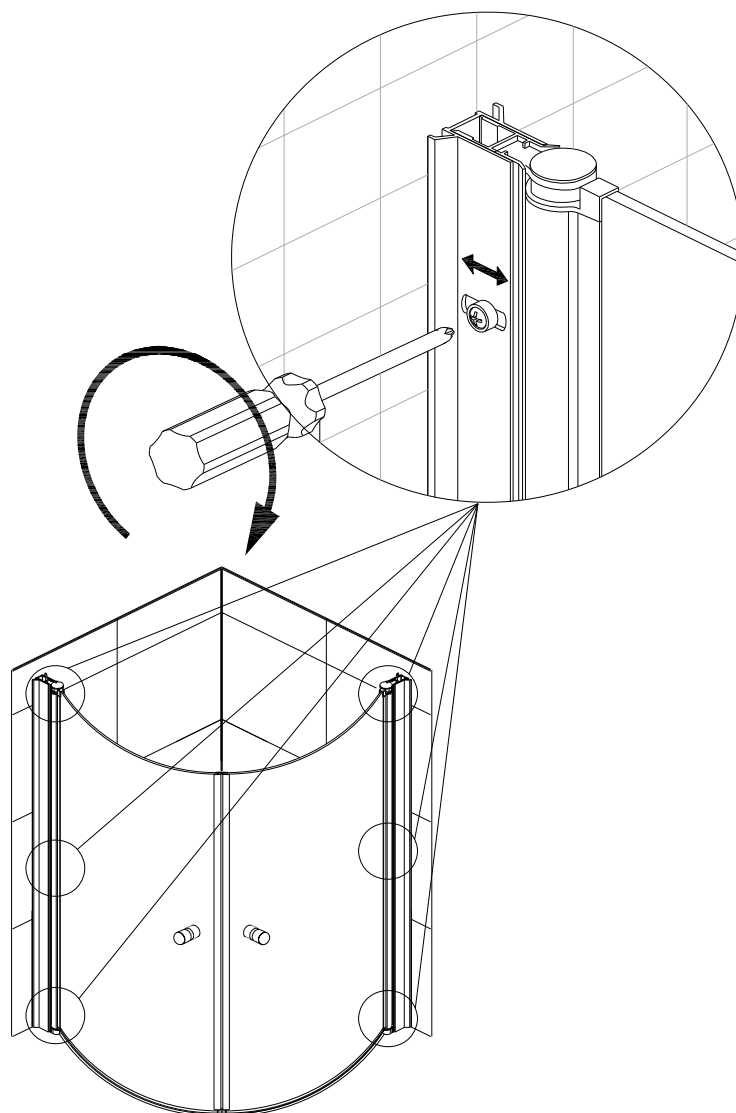

Fig. 6
- 5). Adjust the screws M4x16, make sure the pivot doors works well. As FIG. 6